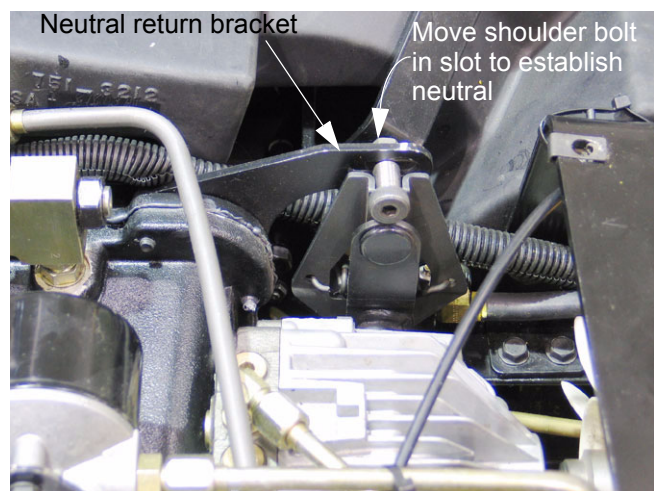

Figure 3.1
- 3.1. If the transmission creeps, check the neutral control adjustment. See Figure 3.1.